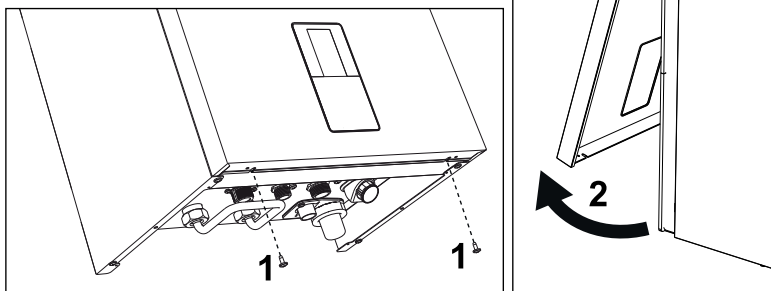

fig. 42- Front panel opening
1. Undo the screws "1" (see fig. 42).